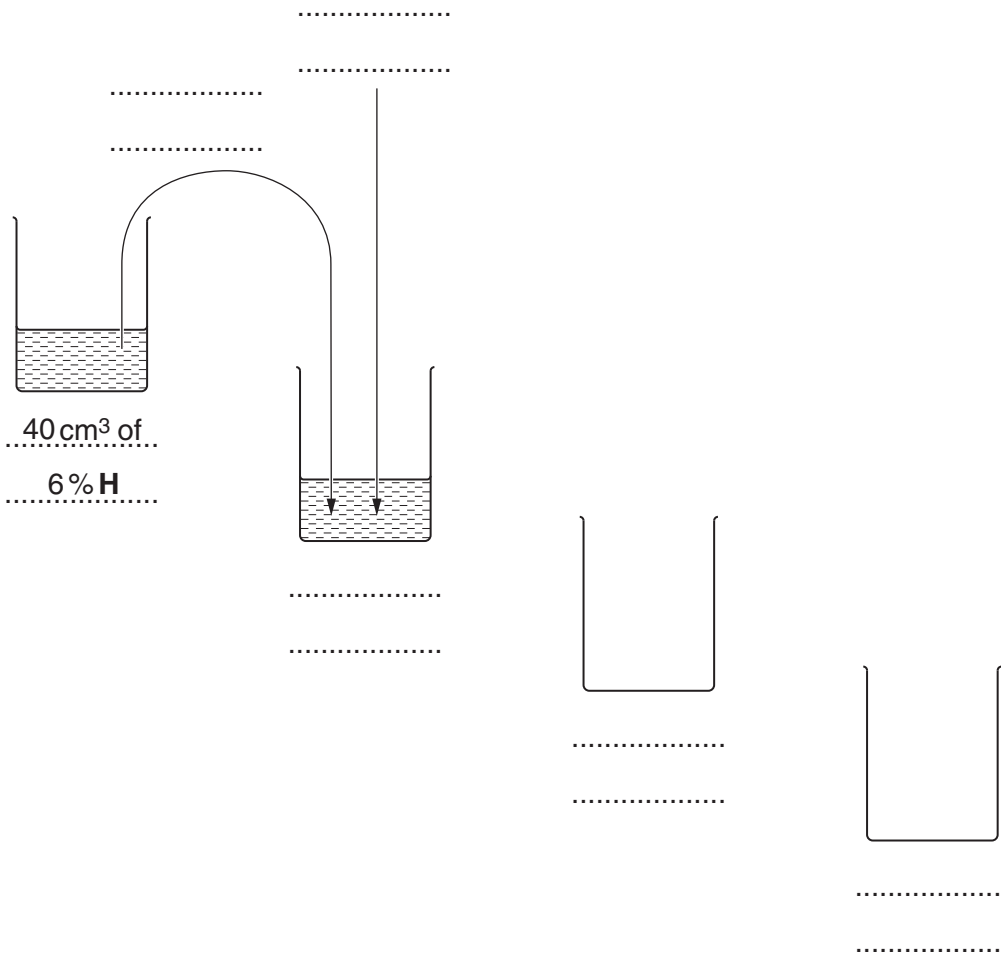

Fig. 1.1
Complete Fig. 1.1 to show how you will make **three** further concentrations.
1. Prepare all the concentrations of hydrogen peroxide, as in **Fig. 1.1**, in the containers provided.